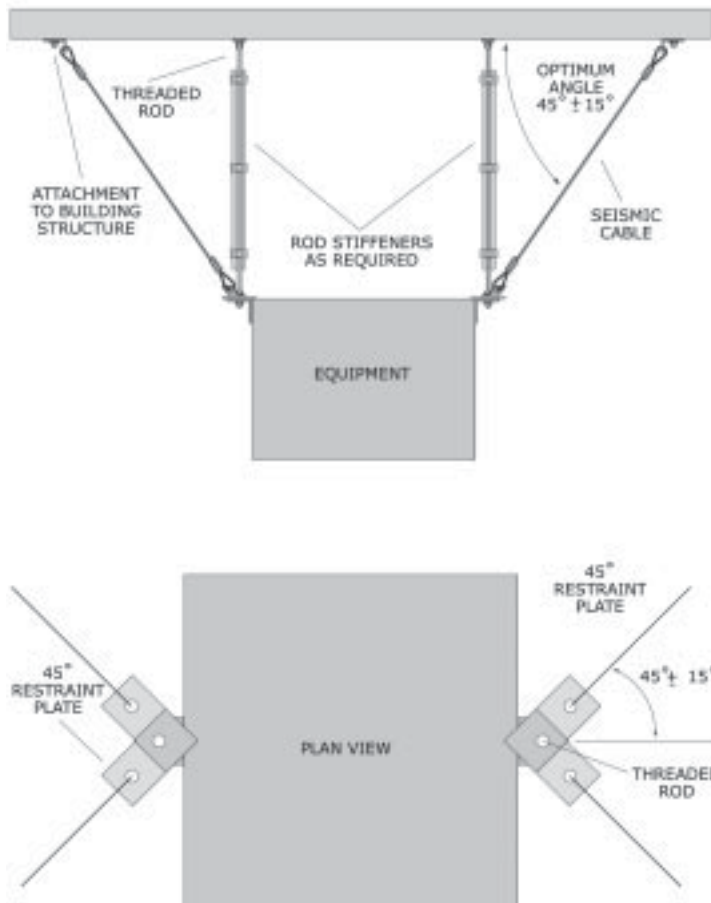

Figure 109: Two point equipment attachment.
**The attachment should be located just above the center of gravity to minimize swinging. It should be a rigid attachment with brackets to the equipment using double nuts and washers, especially if connected at the top as shown in Figure 109 (page 84).**
The detail in Figure 109 (page 84) shows the attachment to the equipment.